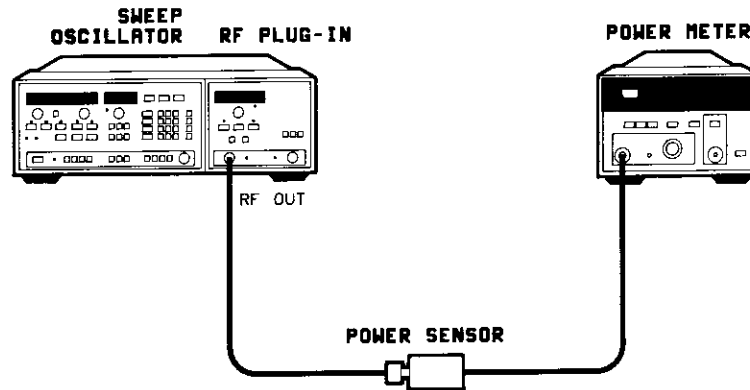

Figure 3-7. Peaking RF Output Power Equipment Setup
1. Connect the equipment as shown in Figure 3-7, and allow the instruments to warm up for at least 30 minutes.